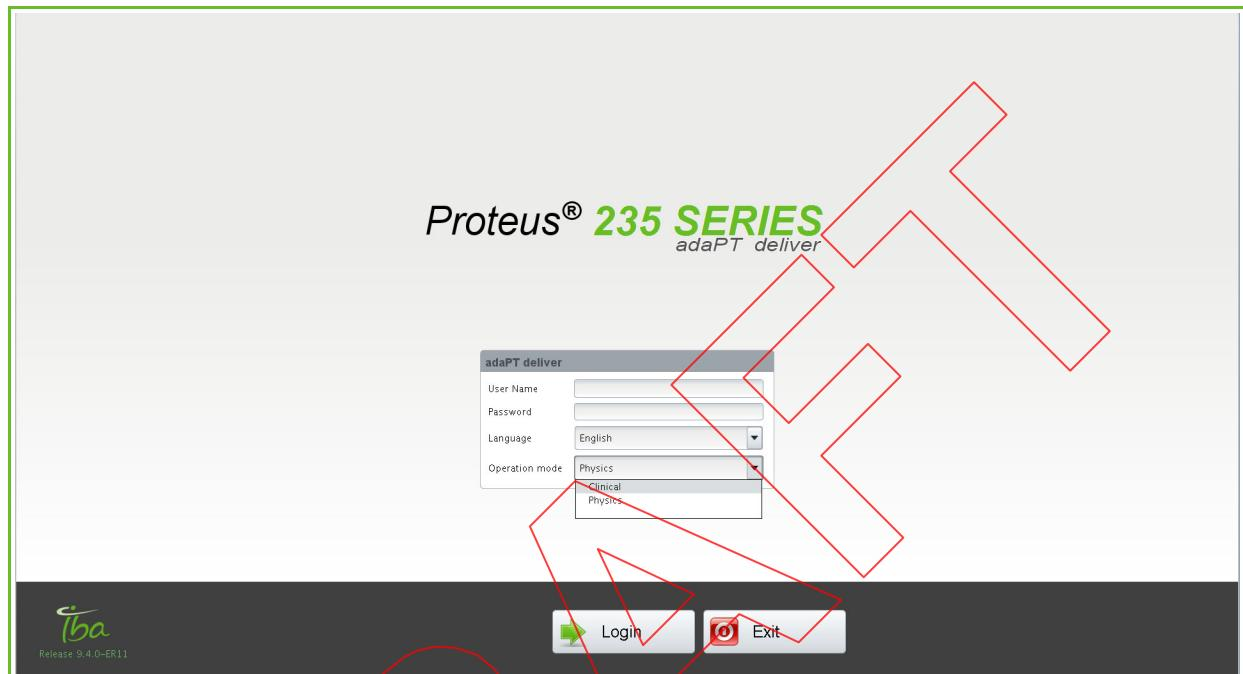

Figure 31-5. adaPTdeliver Login Screen (Typical)
After a few seconds, the ADAPTDELIVER LOGIN SCREEN appears (see Figure 31-5).
2. Click **Exit** from the ADAPTDELIVER LOGIN SCREEN (see Figure 31-5).